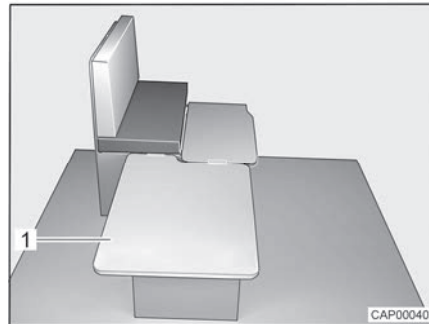

Fig. 81 During conversion
- Hook removable board (Fig. 81,1) in on the side of the bench and place it on the table.